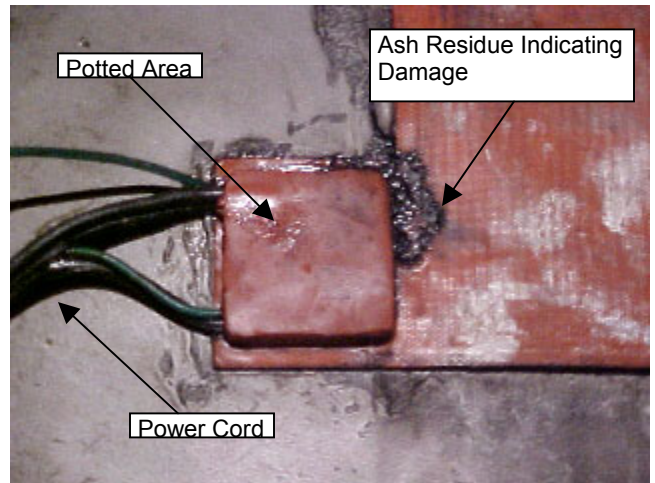

Figure 1: Typical indications of electrical damage.
- 3) Visually inspect the area of the pre-heater in the vicinity of the ¼-inch thick power cord potting for any signs of a burned, charred or over-heated area. The burned area will exhibit a dark brown or black color. An area that was over-heated may be a lighter shade of orange than the surrounding heat pad. See Figure 1 for typical signs of damage.